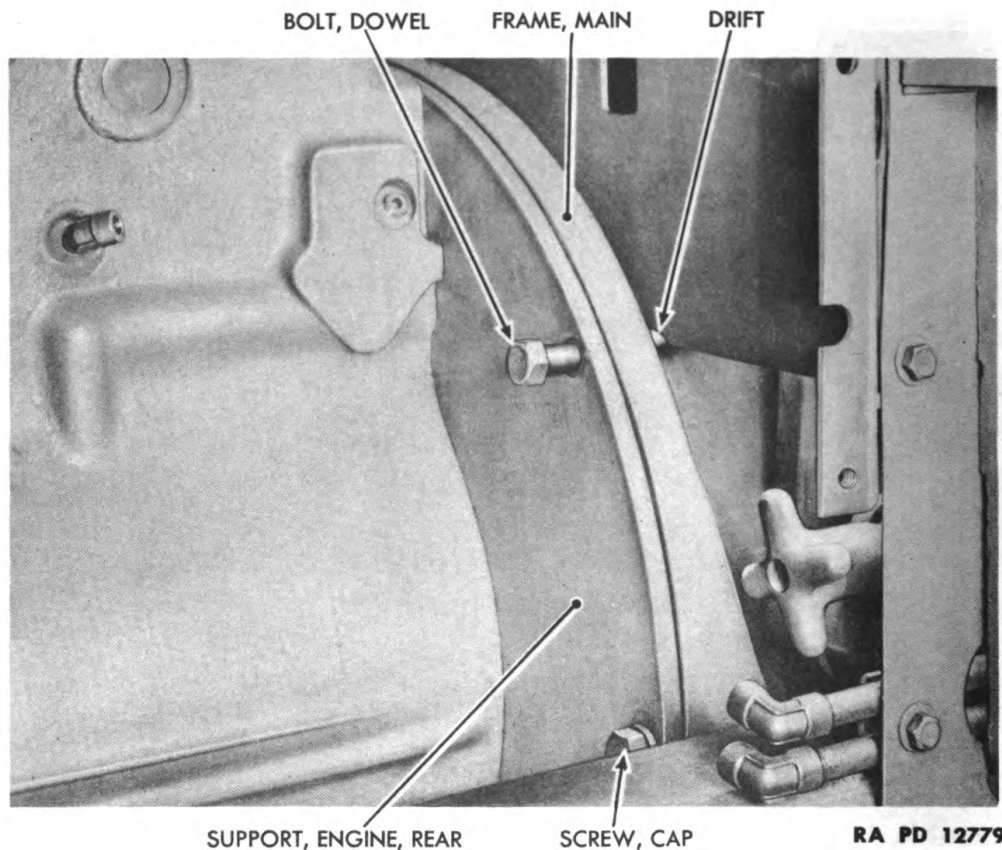

Figure 16—Removal of Dowel Bolt from Rear Engine Support
(2) DISCONNECT REAR ENGINE SUPPORT FROM MAIN FRAME (figs. 16 and 17).